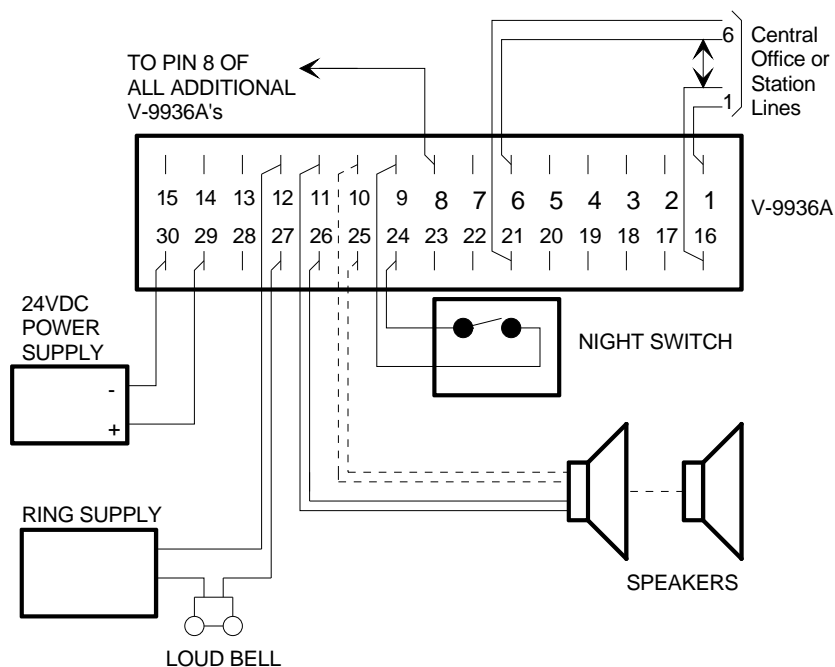

FIGURE 3 - STAND-ALONE RINGING CONNECTIONS
- Proceed to Figure 3 for stand-alone ringing connections.